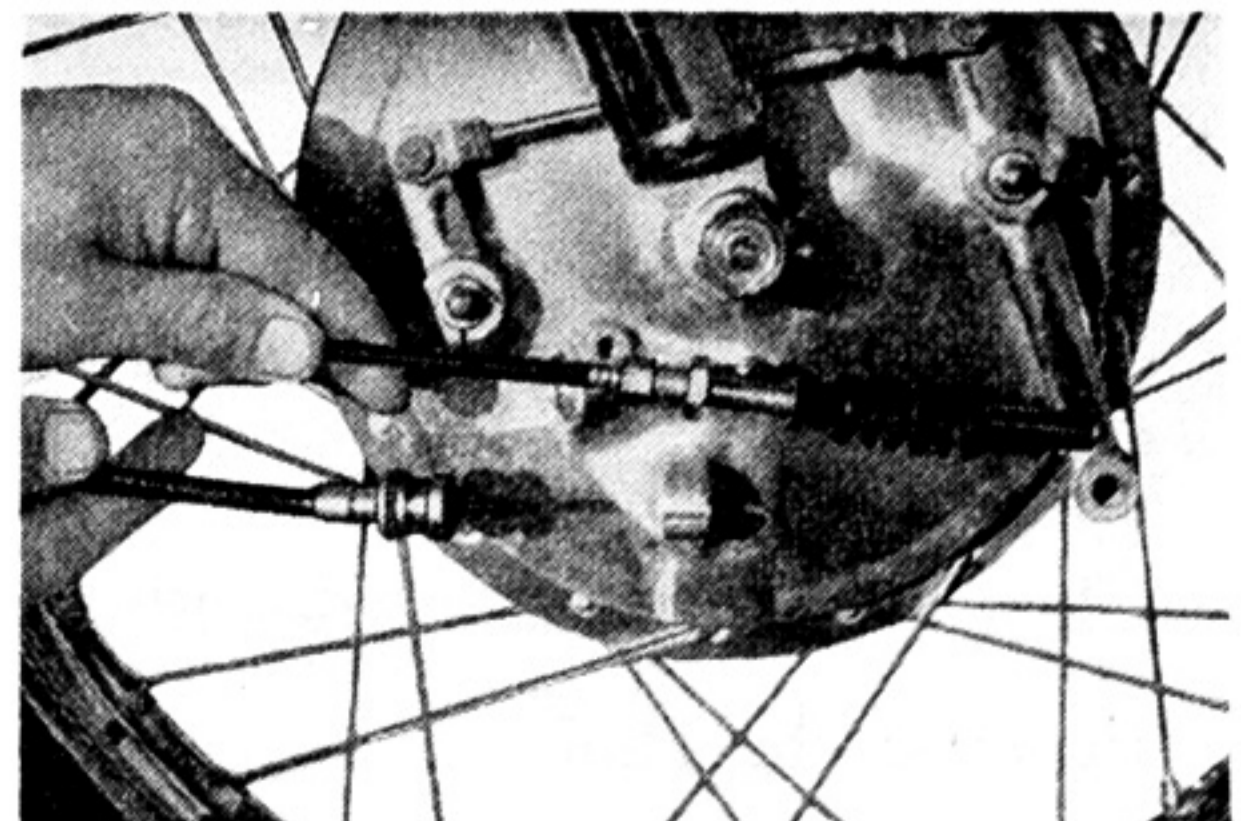

Fig. 4-1-2
- a. Disconnect the brake cable from the front brake shoe plate, and remove the speedometer cable. (Fig. 4-1-2)